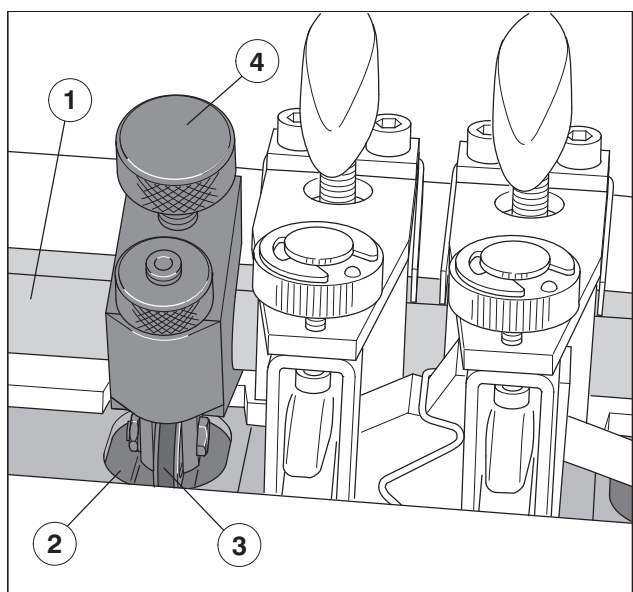

Fig. 53 Positioning the small size forwarding rollers
5. Place a small size forwarding roller on the shaft (Fig. 53/1) so that the roller (Fig. 53/3) is in the center of the recess (Fig. 53/2) in the guide plate.
6. Tighten the knurled screw (Fig. 53/4) for fastening the forwarding roller.